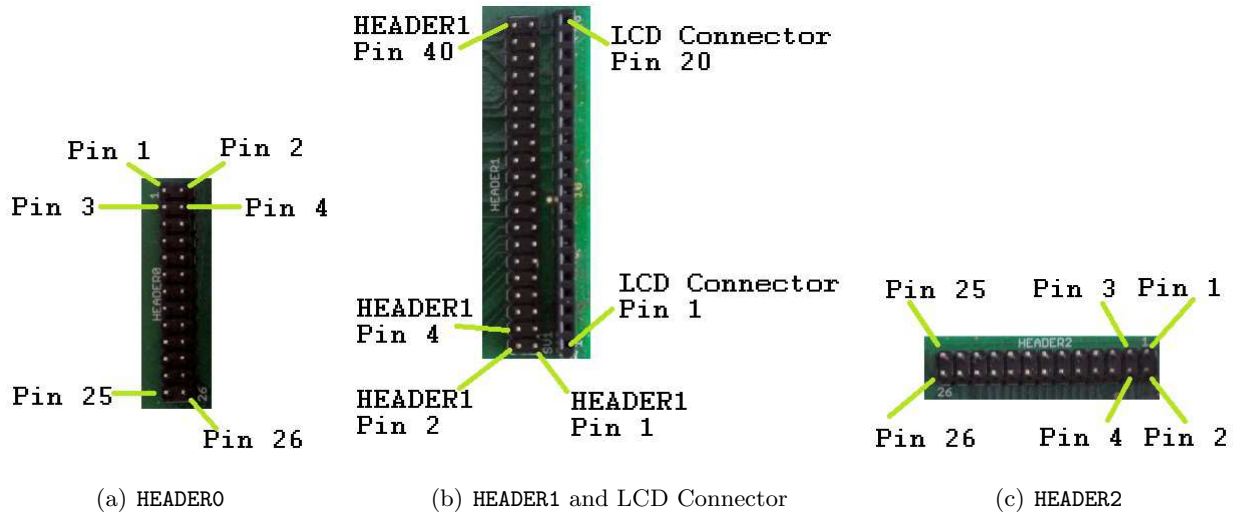

Figure 3: Pin mapping for general purpose I/O headers
3. Using the 26-pin HEADER0, 40-pin HEADER1 and 26-pin HEADER2: Figure 3 shows the numbering convention for the general purpose I/O headers `HEADER0`, `HEADER1`, `HEADER2` and the LCD Connector. Tables 5-7 show the pin mapping for these using the same numbering convention and pattern as in Figure 3.